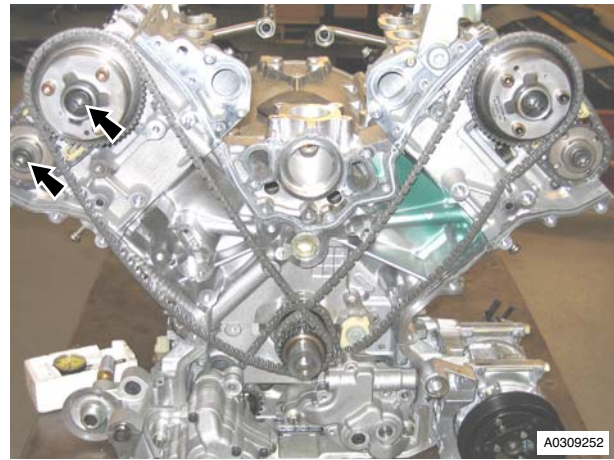

Figure 1
2. Remove the two Torx bolts that attach the inlet and exhaust camshaft sprockets to camshafts (refer to Figure 1).